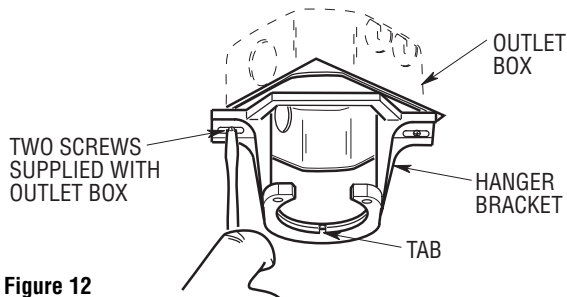
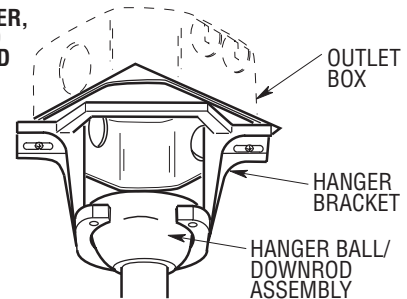

Figure 12
Figure 13
1. Securely attach the hanger bracket to the outlet box using the two screws supplied with the outlet box. (Figure 12.)
2. Carefully lift the fan and seat the hanger ball/downrod assembly on the hanger bracket that was just attached to the outlet box (Figure 13). Be sure the groove in the ball is lined up with the tab on the hanger bracket (Figure 12).